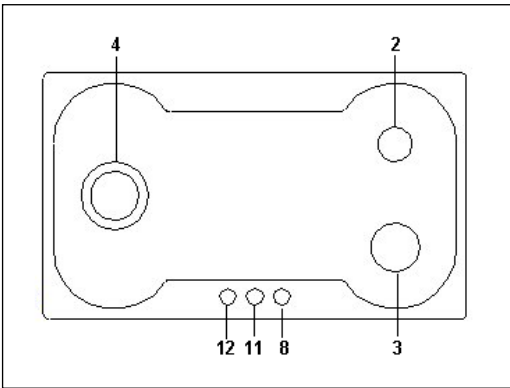

Fig.11B
- GAS HOB TYPE **P950**, see Fig. 11B - Electrical Diagram E